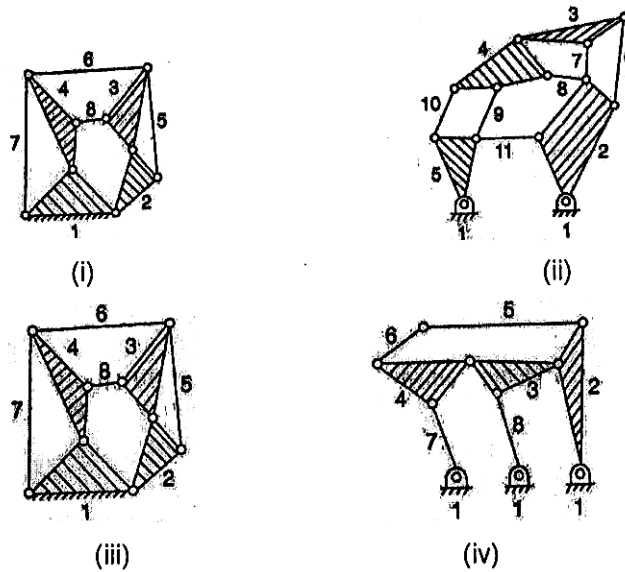

Figure 1
1. a) Explain Kutzbach's criteria. Determine the degrees of freedom of the following mechanisms shown in the figure 1.